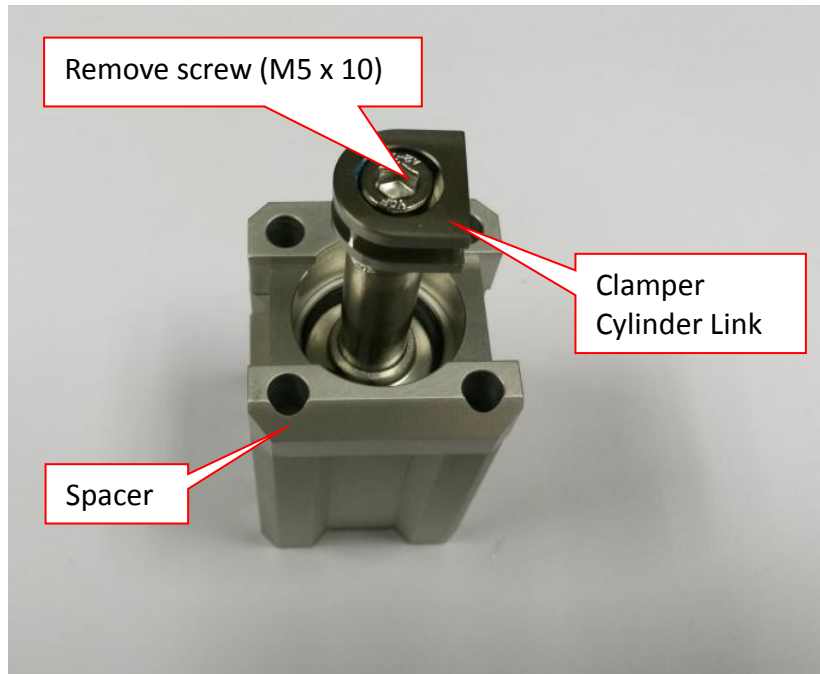

Figure 9 Clamper Cylinder Link Removal
11. Gentle remove 1 x Screw (M5 x 10) & Clamper Cylinder Link as shown in Figure 9.